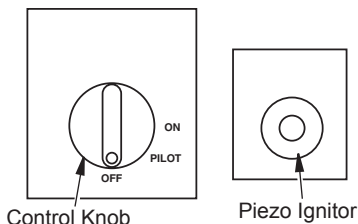

Figure 27 - Control Knob In The OFF Position
4. Wait five (5) minutes to clear out any gas. Then smell for gas, including near the floor. If you smell gas, STOP! Follow "B" in the safety information, page 18. If you don't smell gas, go to the next step.
5. Turn control knob counterclockwise  to the PILOT position. Press in control knob for five (5) seconds (see Figure 27).
6. With control knob pressed in, press and release ignitor button (see Figure 27). This will light pilot. The pilot is attached to the front burner. If needed, keep pressing ignitor button until pilot lights.